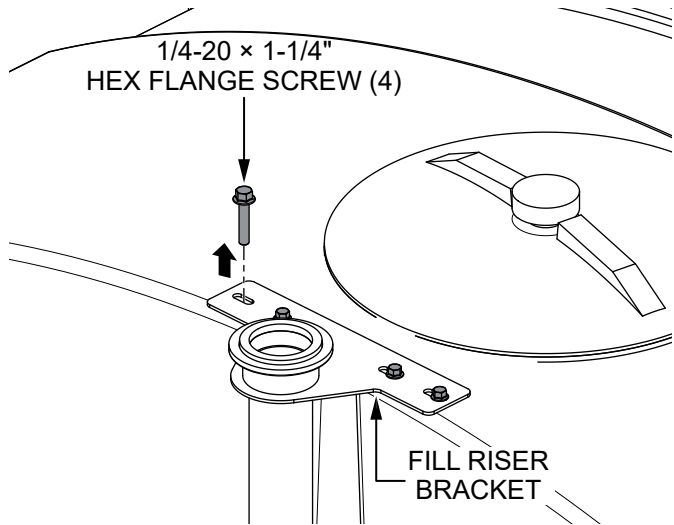

Figure 3. Remove Fill Riser Bracket Screws
2. Remove and discard the **four 1/4-20 × 1-1/4" hex flange screws** (Figure 3) securing the **fill riser bracket** to the water tank.